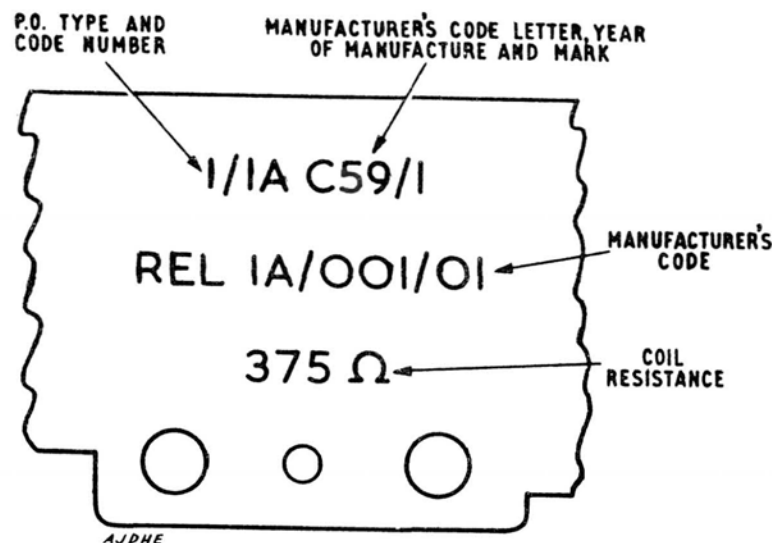

FIG. 6
4. Code markings. Fig. 6 shows the typical markings on the frame of the ratchet relay, used for identification.